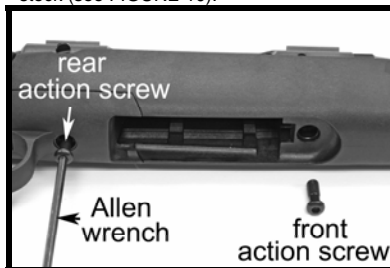

FIGURE 10
4. Using a 5/32" Allen wrench, loosen and remove the two action screws securing the stock (see FIGURE 10).
7. Maintaining downward pressure on the receiver to be sure the recoil lug remains engaged in the receiver slot, install the action screws (longer screw is to the rear and the shorter screw is to the front) into the stock (see FIGURE 10) and turn the wrench clockwise until the threads of the screws just engage into the receiver. DO NOT OVER TIGHTEN – the stock must be loose at this step!